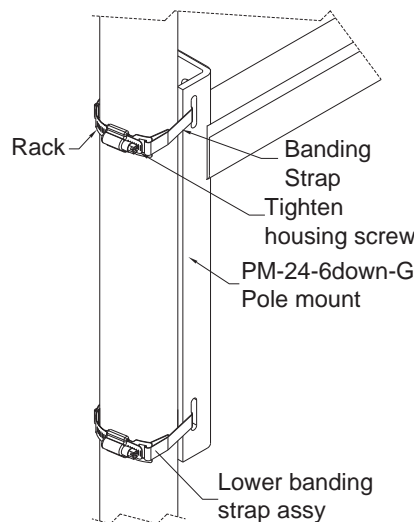

Figure 5
Step 6: Position the location of the PM-MOUNT-6DOWN-G on the pole and then tighten screw using screw or wrench to desired tension and complete the banding operation (Figure 5).